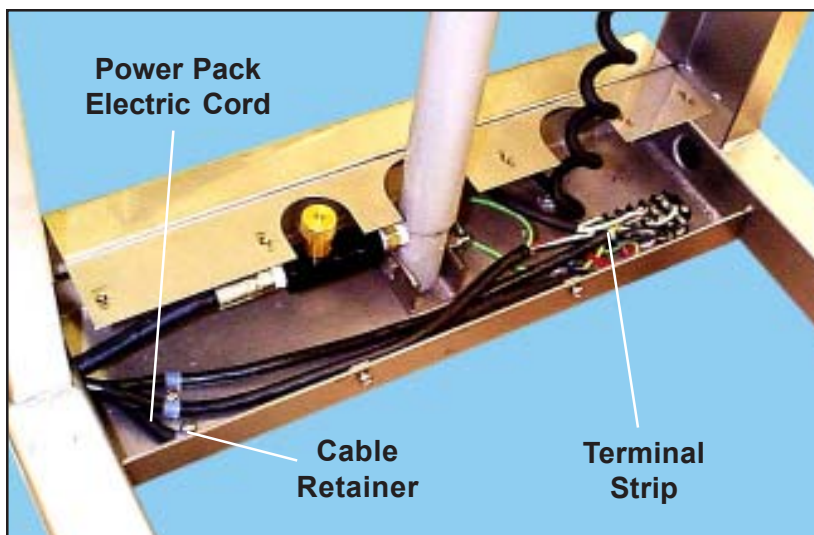

Figure 41. Power Pack Electric Cord and Terminal Strip
5. With a Phillips screwdriver, remove the cable retainer and free the power pack electric cord (Figure 41).
3. Place the cable into the cable retainer and re-mount the retainer in the tray (Figure 41).